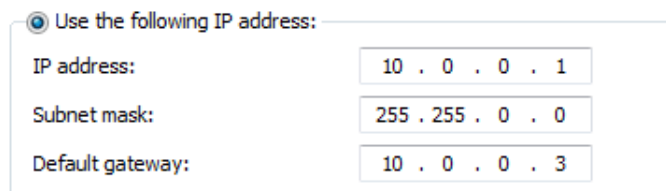

Figure 15 Internet Protocol Version 4 dialog box – Use the following IP address
- f On the General tab of the dialog box, select **Use the following IP address** and set the IP address, subnet mask, and default gateway to the values shown in Figure 15. Click **OK** to close the dialog box.